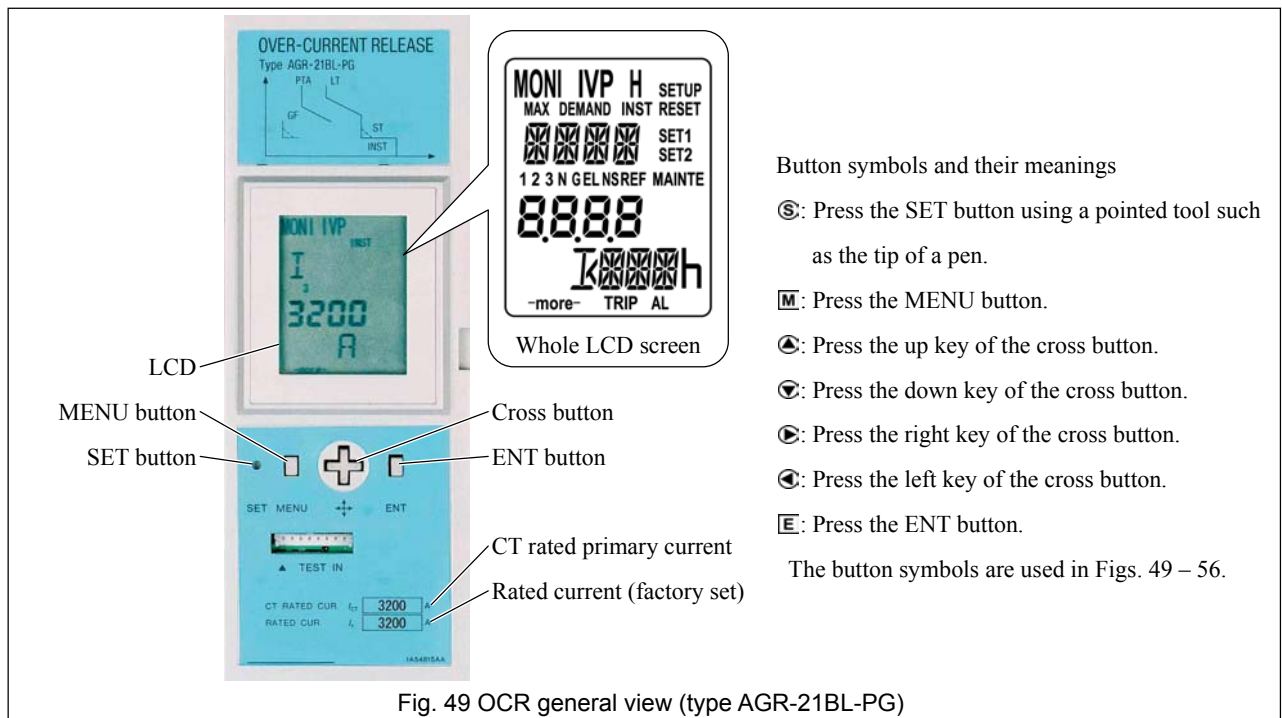

Fig. 49 OCR general view (type AGR-21BL-PG)
- 3) The MENU, SET, cross and ENT buttons are used to navigate the LCD screen. Fig. 49 provides the general view of the OCR.